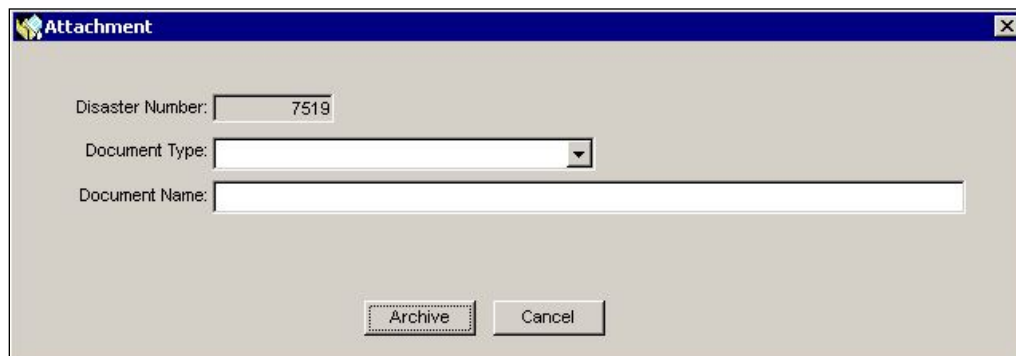

Figure A-3: Attachment Dialog Box
2. On the bottom right part of the tab, click the ATTACH button. The Attachment dialog box is displayed (Figure A-3).